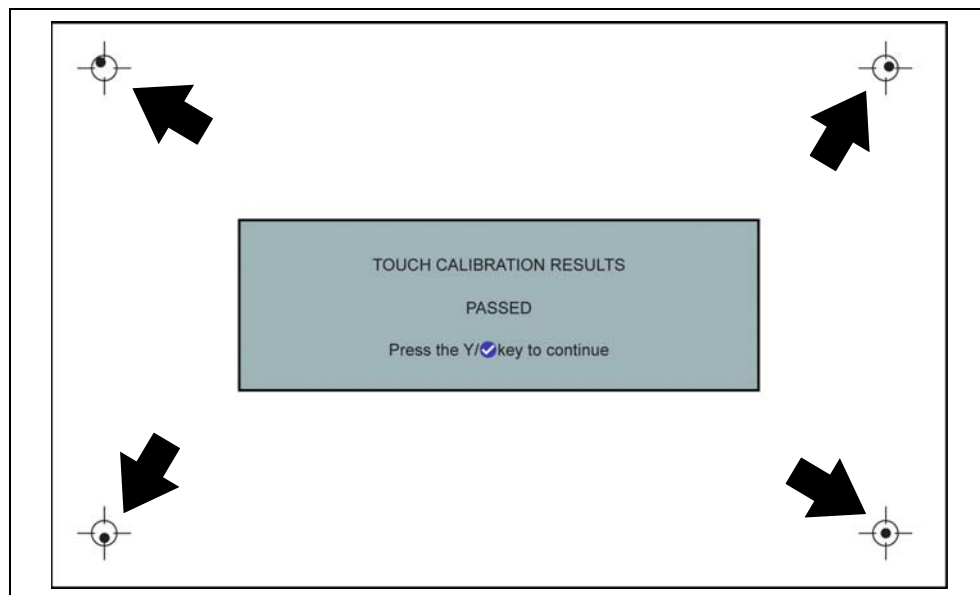

Figure 10-7 Touch screen calibration - Passed
- If the calibration is successful, the “Touch Calibration Results - Passed” screen is displayed (Figure 10-7). Press the **Y** button to complete the process and return to the Display menu.
The results screen (Figure 10-7) shows the entered calibration of each indicator. Ideal calibration would be to select each indicator exactly in the center, however selection inside the displayed circle is acceptable. If selecting the center is difficult using your finger, use a touch screen stylus (not included).